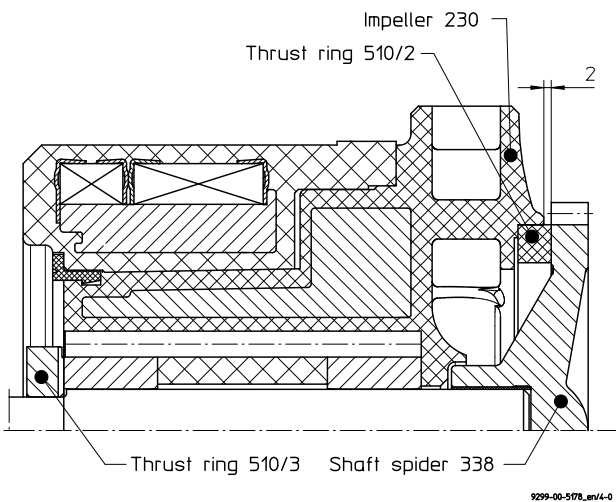

Fig. 7
- ◆ Check whether the thrust ring protrudes about 2 mm out of the impeller. See **Fig. 7**.